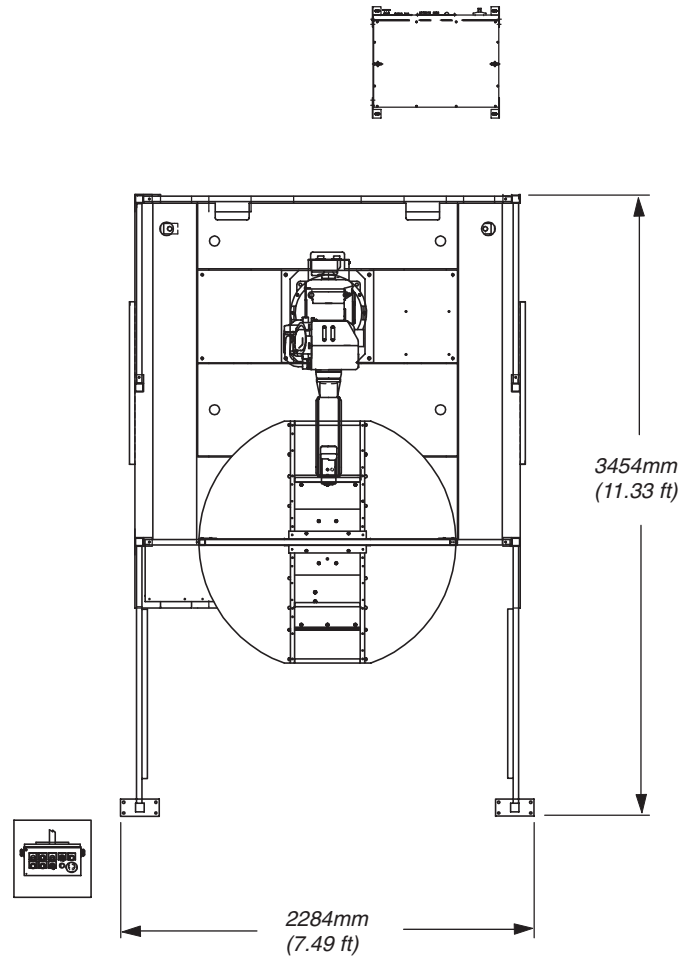

Figure 9 Area Needed for Installation
1. Clear floor space needed for unit (see Figure 9).
3. Place robot common base in position (see Figure 9).
The controller is lagged into the concrete in back of the cell (see Figure 9).
4. Place operator station outside the fence in front of the positioner (see Figure 9).